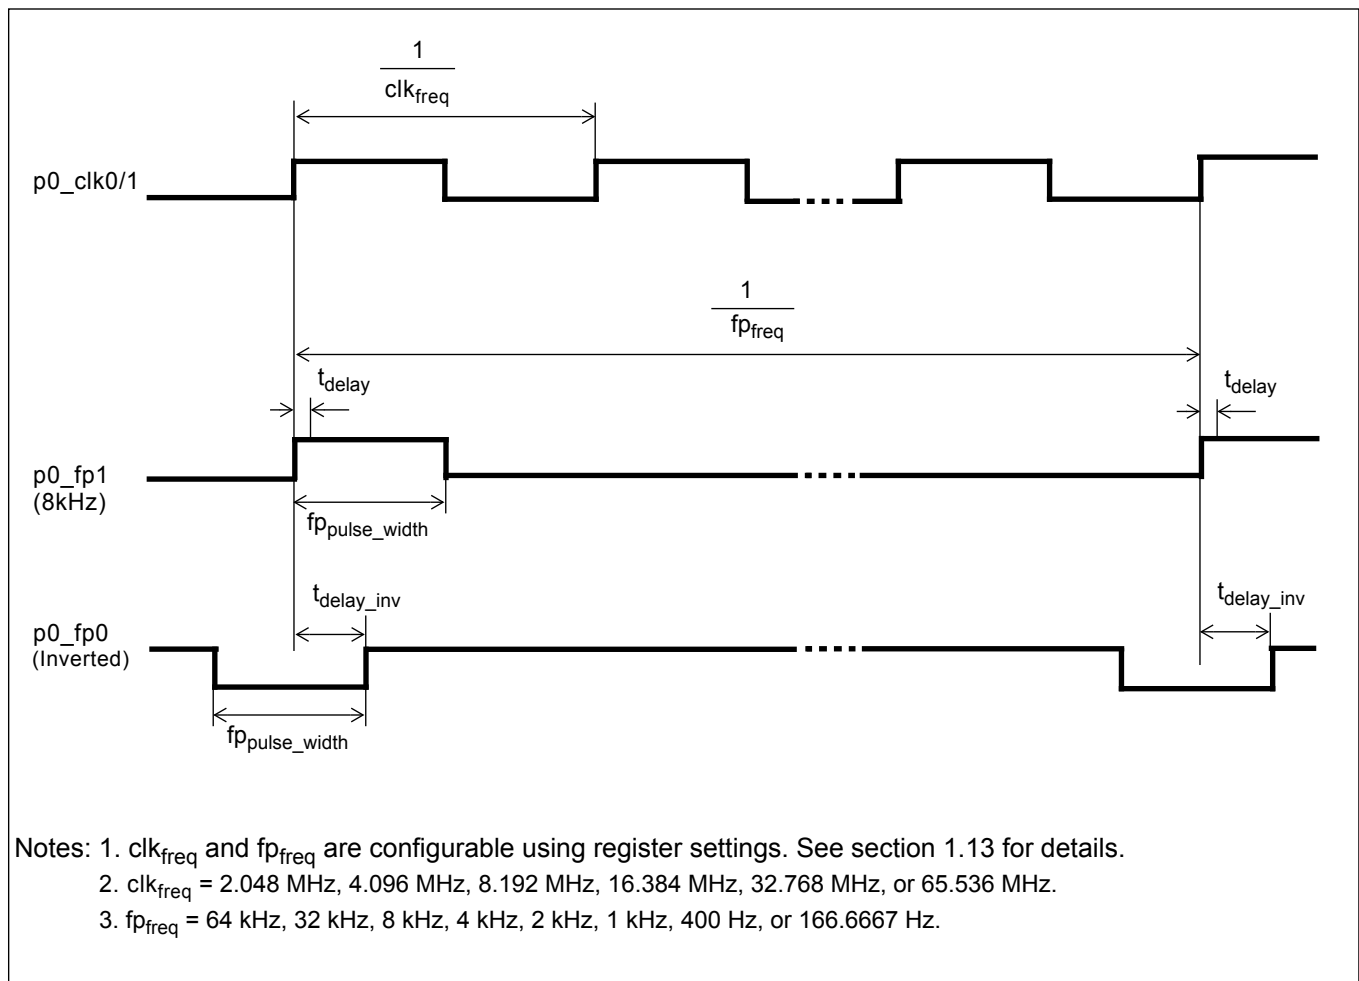

**Figure 39 - Output Clock Fall and Rise Times**
**AC Electrical Characteristics\* - Output Clock and Frame Pulse Fall and Rise Times1 (See Figure 39).**